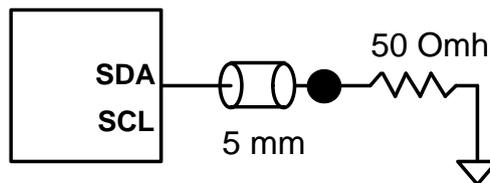
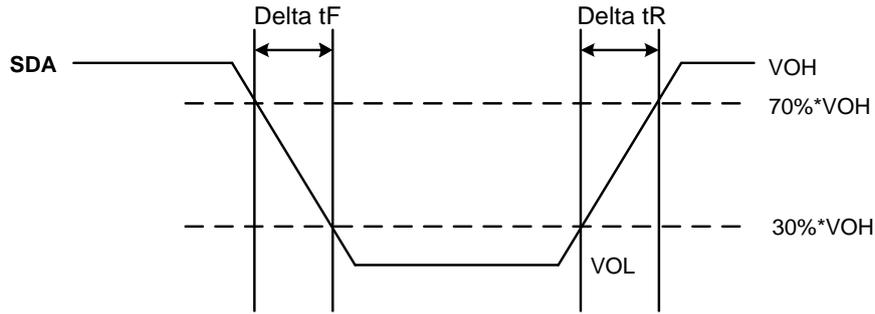

Figure 5 Output Slew Rate and Output Timing Reference Load
Figure 6 Output Slew Rate Measurement Points
- 2 Output slew rate is guaranteed by design and / or characterization. The output slew rate reference load is shown in Figure 5 and Figure 6 shows the timing measurement points. For slew rate measurements, the  $V_{OH}$  level shown in Figure 6 is a function of  $R_{on}$  value;  $V_{OH} = \{1.0 / (R_{on} + 50)\} * 50$ .
- for output timing parameter definition. See Figure 5 for output timing parameter measurement reference load.
- The GD30TP139A device must be configured in I3C Basic mode to guarantee tDOFFT value. See Figure 11. See Figure 5 for output timing parameter measurement reference load. Also refer to MIPI Alliance Specification for *I3C Basic Version 1.0-19 July 2018, section 5.1.2.3.2, Transition from Address ACK to Mandatory Byte during IBI*.
- The GD30TP139A device must be configured in I3C Basic mode. The Host guarantees tDOFFC value. See Figure 12. See Figure 5 for output timing parameter measurement reference load.